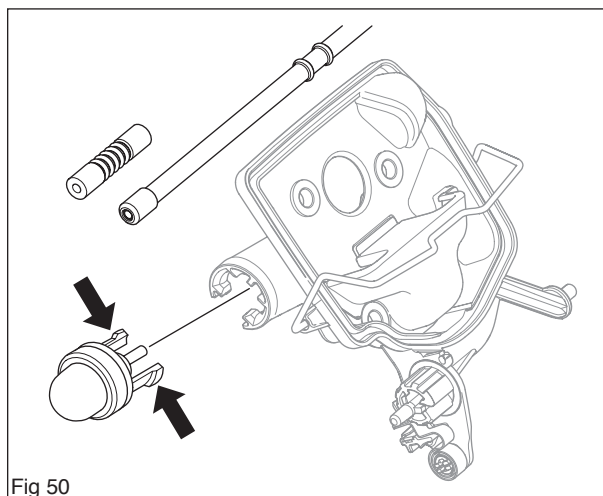

Fig 50
3. Snap the purge into the filter holder. (see figure 50)